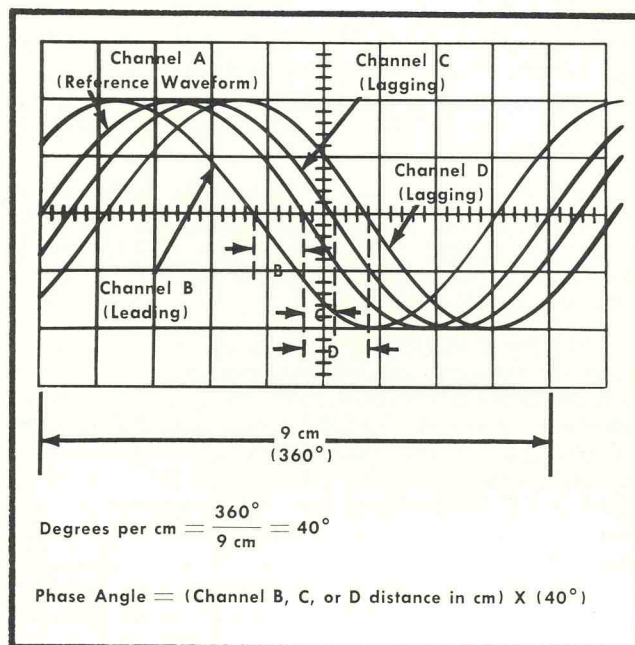

Fig. 2-6. Measurement of phase angles between electrical waveforms.
6. Set the oscilloscope time-base controls (includes the Variable Time/Cm control) so that one cycle of the reference signal occupies exactly 9 centimeters horizontally. Thus, each centimeter represents 40° of one cycle at this time-base setting (see Fig. 2-6).